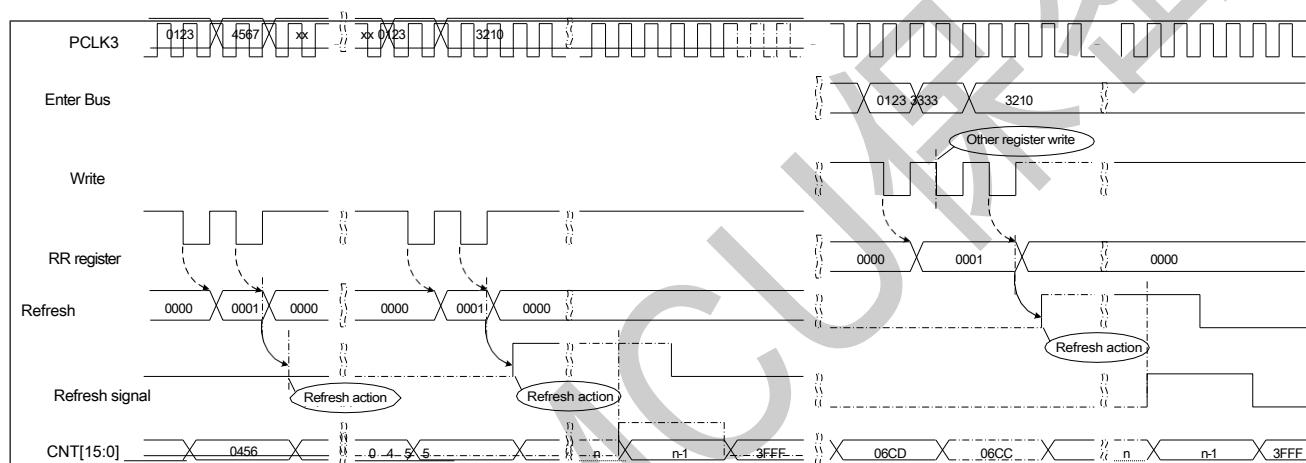

Figure 25-3 Various refresh action timing examples (action confirmation, falling edge of refresh request signal, etc.)
- (S) Write 0x0123 and then 0x3210 in the WDT_RR register to complete a refresh action, and the counter of WDT/SWDT will start counting (software start) or restart counting.
- (S) WDT_RR register between write 0x0123, 0x3210, if to occur to other register access or read
- (S) WDT_RR register, etc., does not affect the normal refresh action. An example of the action is shown in Figure 25-3.